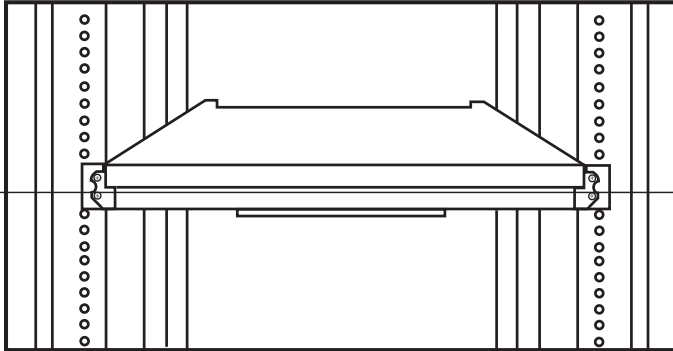

Figure 3-11. Sliding the drawer out.
8. Slide out the drawer and then remove the four safety stoppers from the left and right sides in sequence. See Figures 3-11 and 3-12.